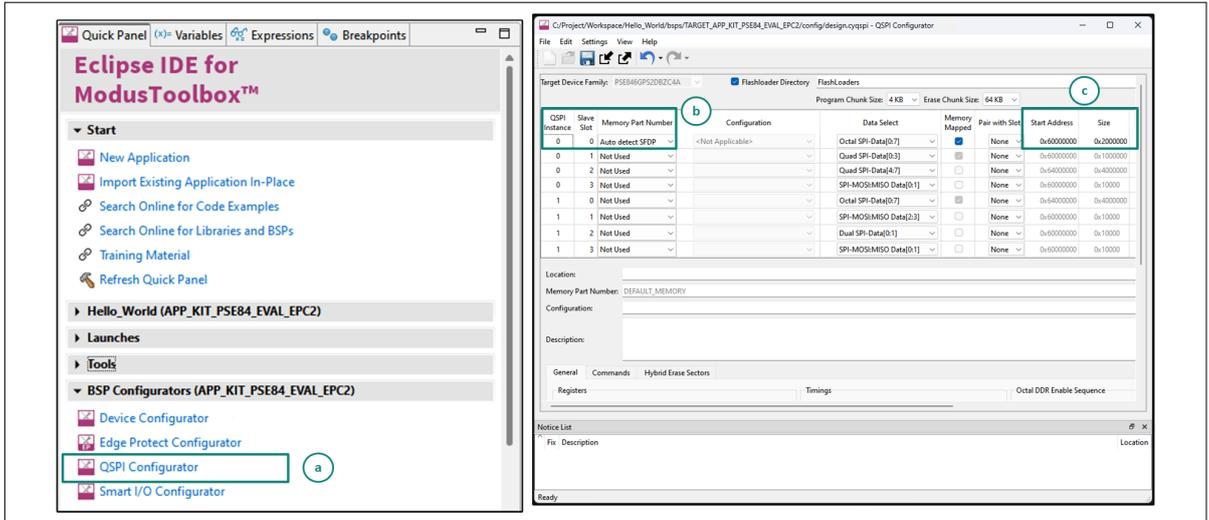

Figure 21 Launching the QSPI configurator and configuring the booting from OSPI flash
3. Use the ModusToolbox™ QSPI configurator to update configuration files, configure memory slots, and generate code for your application to allow it to program into the external Octal SPI flash, see Figure 21.